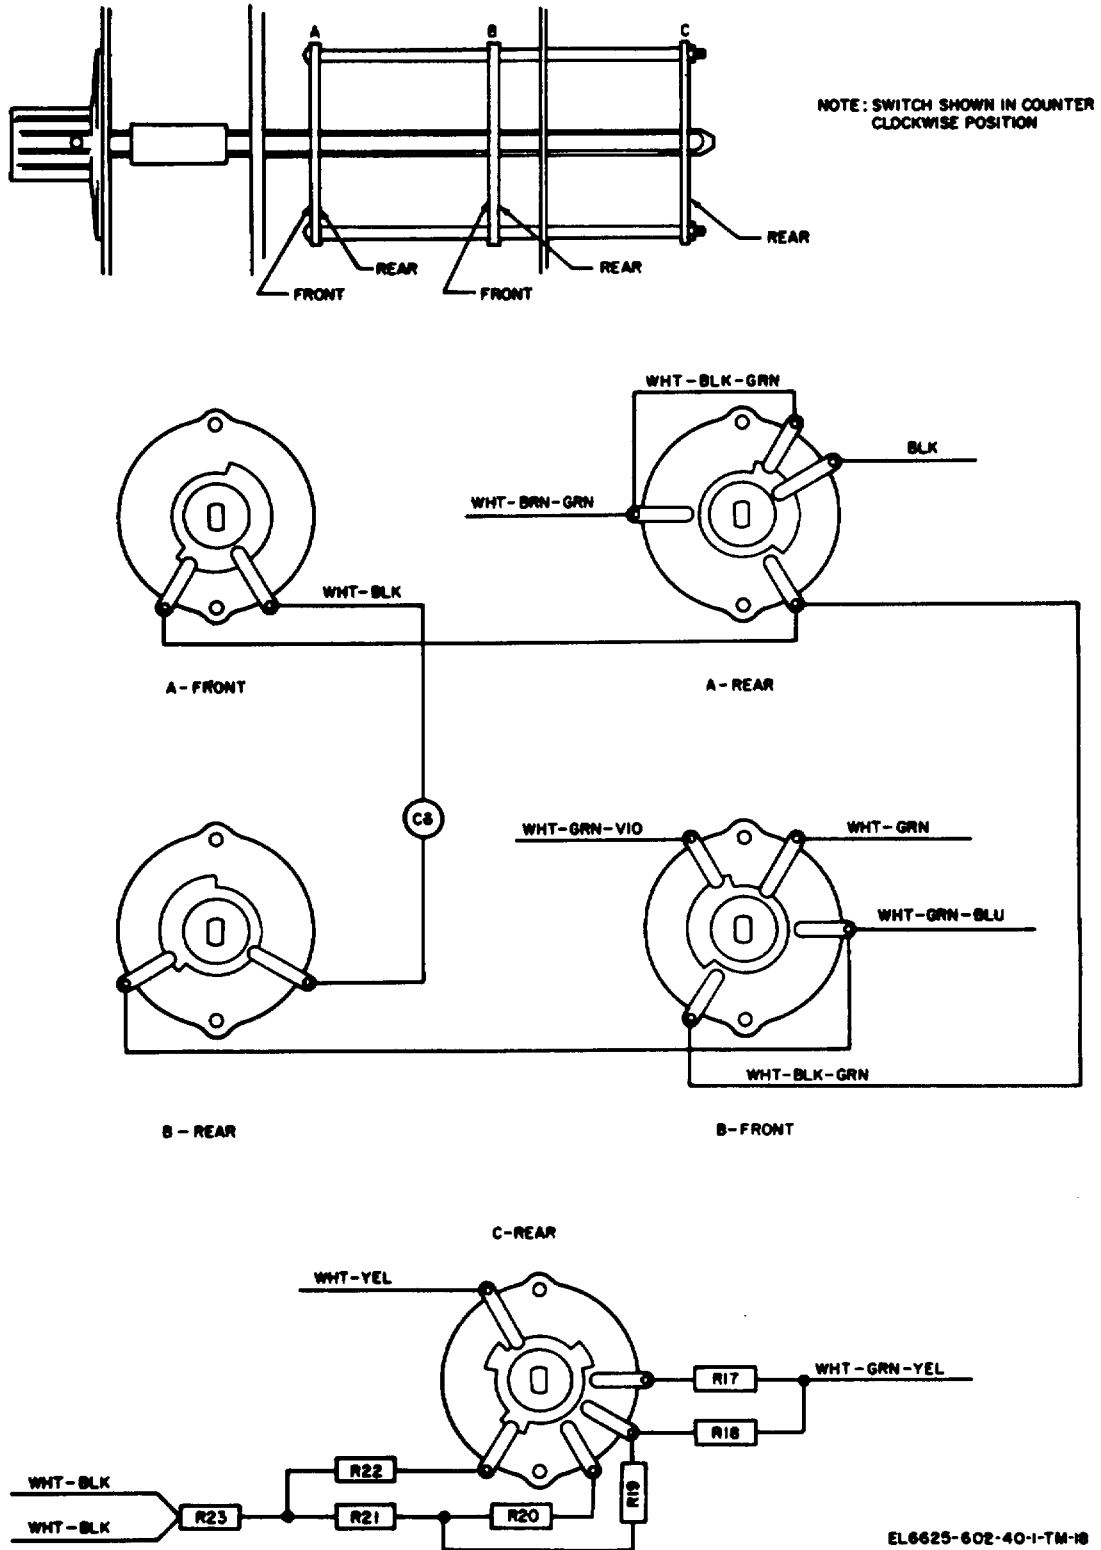

Figure 4-8. Voltmeter, Electronic ME-260B/U RANGE switch wiring diagram.
(1) Install the switch in the chassis. Solder the leads to the switch as shown in figure 4-8.
(2) Replace the nut and washer on the switch shaft (do not tighten). Replace and tighten the sleeve to the switch shaft.
(3) Replace and tighten the knob shaft to the sleeve. Align the RANGE switch dial with the .1 position and tighten the nut on the switch shaft.
(4) Make the tracking calibration, frequency response calibration, and 30-volt response calibration, and 30-volt response calibration of the voltmeter (para 4-24, 4-25, and 4-26).
(5) Replace the attenuator shield and the top, bottom, and side panels.
(6) Replace the voltmeter in the carrying case.